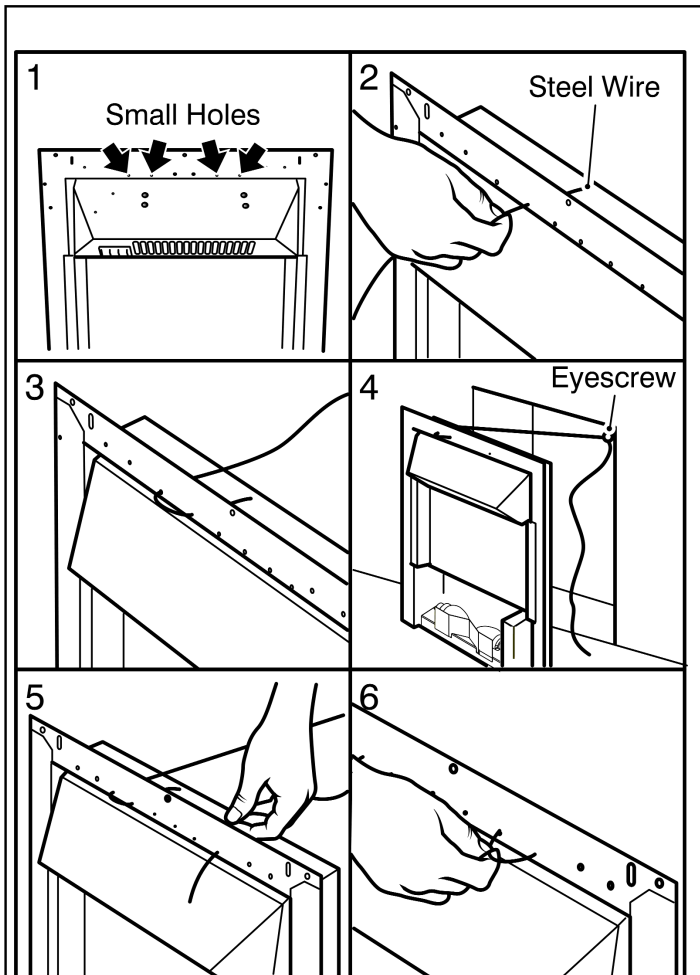

Figure 8. Steel wire fixing (Detail at top of heater may differ from that shown)
7. At the top of the heater there are four small holes, two each side of the heater (See figure 8- Item 1). From the front of the heater, thread about 50mm (2 inches) of the steel wire into the inside small hole on the left side of the heater (See figure 8 - item 2).
8. Thread the other end of the wire through the remaining small hole on the left hand side of the heater. Continue to push the wire through this hole until there is only a small loop of wire at the front of the heater (See figure 8 - item 3).
9. At the back of the heater there will be a long piece and a short piece of wire coming through the two holes. Hold the short piece and give the long piece a gentle tug. This will secure the steel wire. Take the long piece and thread this through the eyescrew in the back of the fireplace opening (See figure 8 - item 4).
10. From the back of the heater thread the long piece of steel wire through the outer small hole on the right hand side of the heater (See figure 8 - item 5).
11. Locate the heater in the fireplace opening, then from the front of the heater, gently pull the steel wire on the right hand side to gather up the excess until the heater is secure. Thread the wire through the remaining small hole to lock the wire and heater in place (See figure 8 - item 6).